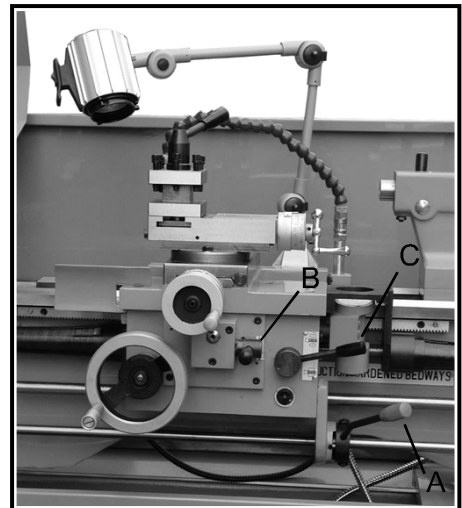

Fig. 21
1. Move the forward/reverse selector (A, Fig. 21) up or down depending on desired direction.
Push lever (B, Fig. 21) to the right and down to engage cross feed. Pull lever to the left and up to engage longitudinal feed.
3. Engage the half nut lever (C, Fig. 21).